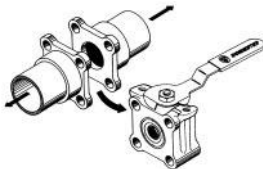

Figure 1: 'Slide-out' method
- b) Method 1: 'Slide-out' method: (see Figure 1). Extract all of the body bolts and slide the body complete from the two body connectors. Care must be taken not to damage the connector sealing faces.